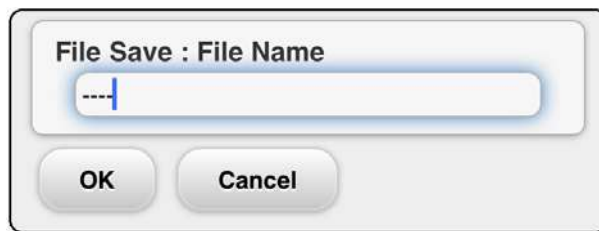

Fig. 4-83 File Save Window
- (1) When saving the measured data, press  [save button] icon shown at the header part.
- (2) The file input window (Fig. 4-83) will then be shown. After a saving file name is input, press [OK button].